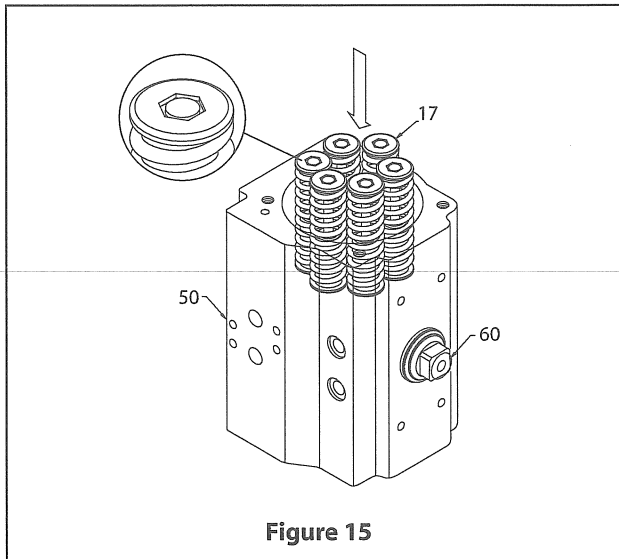

Figure 15
- A. For spring-return actuators, insert the proper quantity of spring cartridges (17) according to the pattern shown in (Figure 14) (referring to the total number of springs). Insert spring cartridges (17) as shown in (Figure 15).